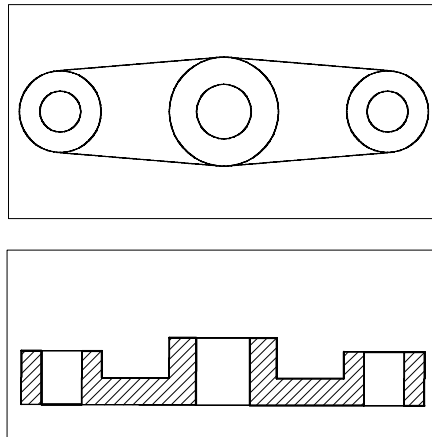

Figure 28-27 Layout after generating the drawing views
7. The drawing views should look similar to those shown in Figure 28-27.